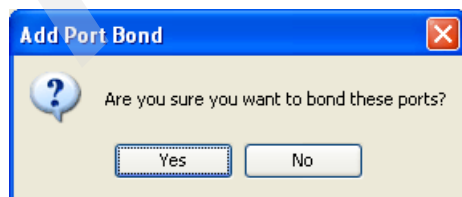

Figure 12-8 Verification window
3. On the panel shown in Figure 12-8, click **Yes**.